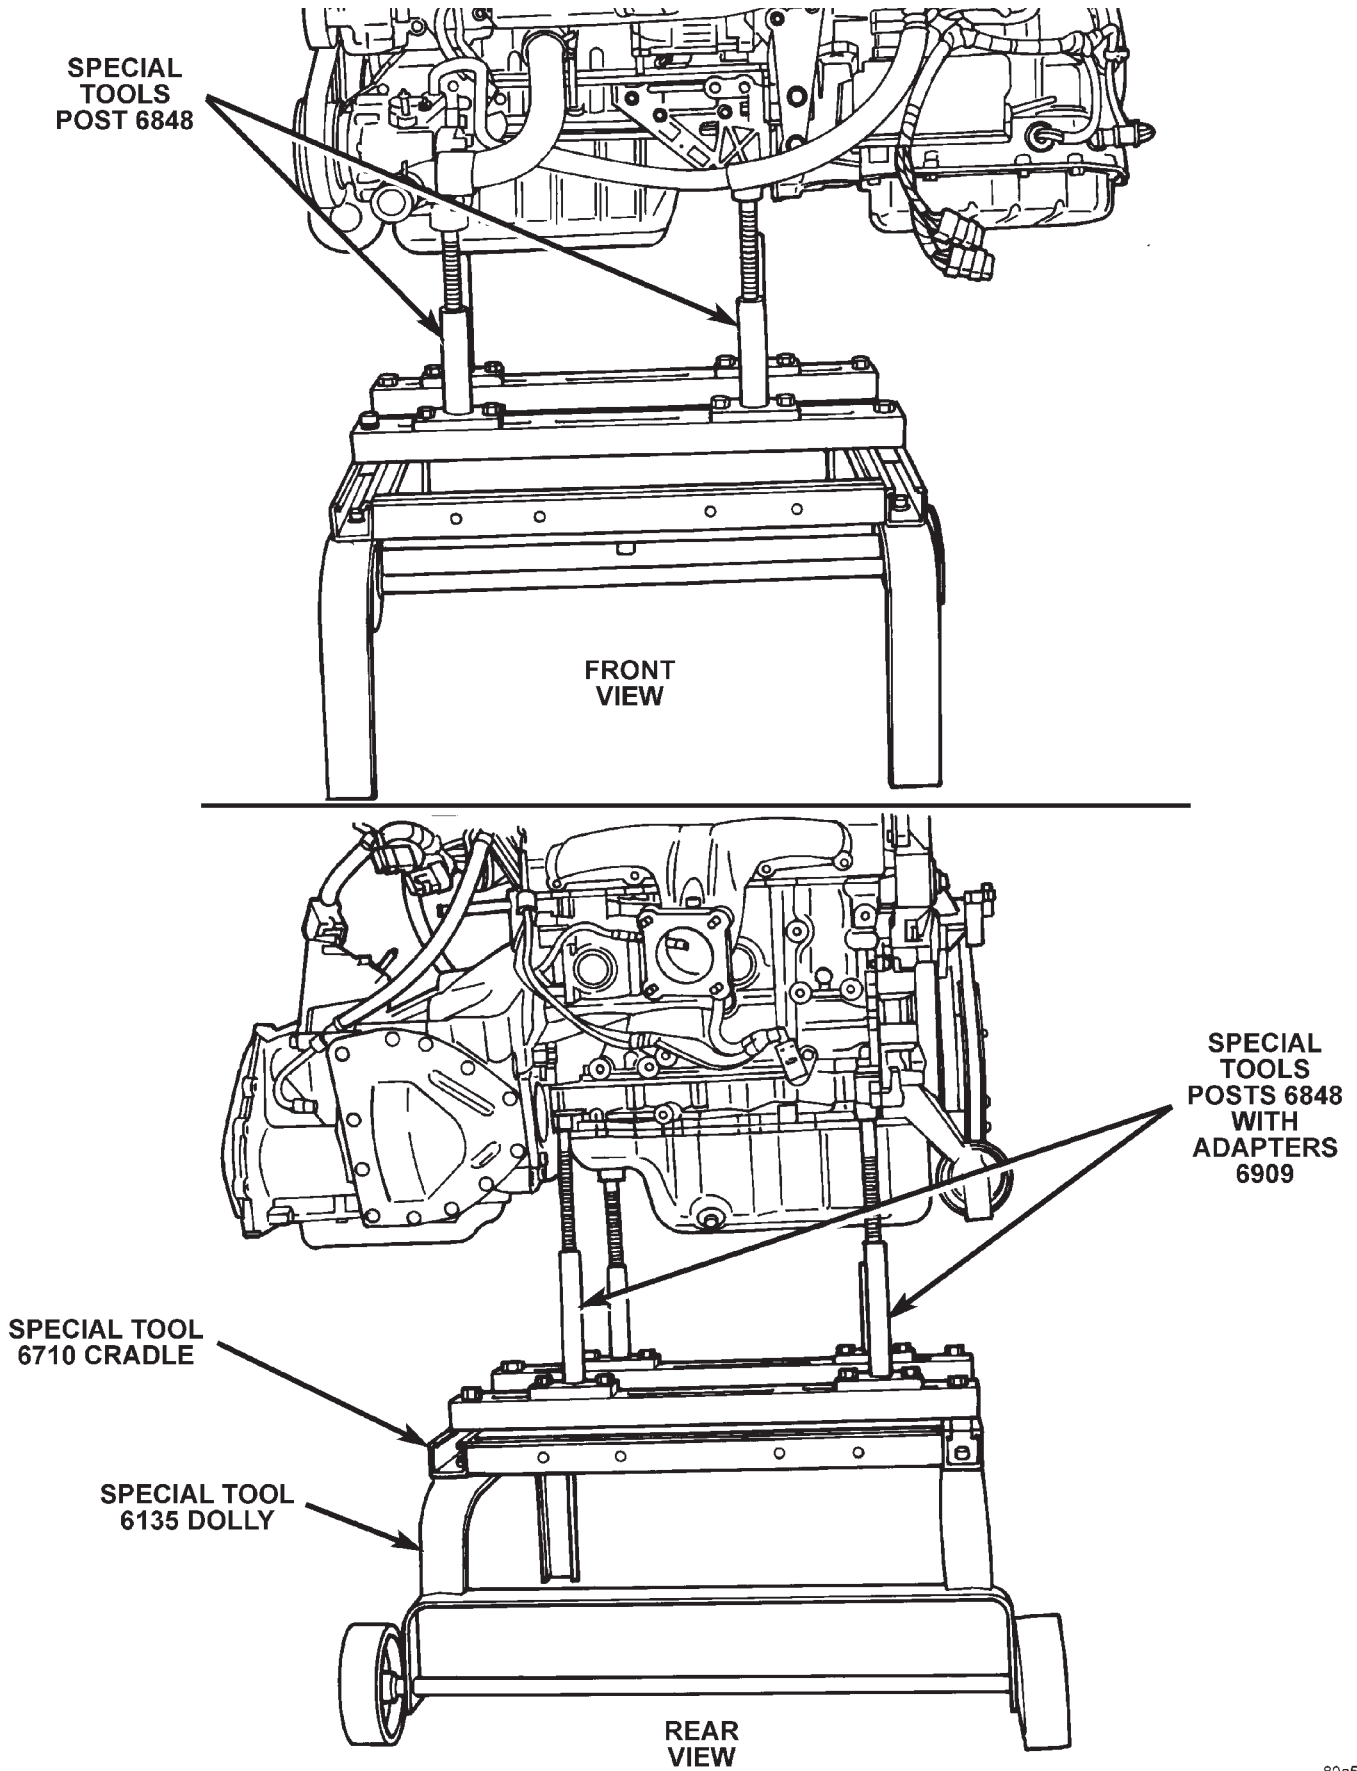

Fig. 23 Positioning Engine Cradle Support Post Mounts
- (16) Remove engine support module.
- (17) Remove front and rear mount brackets from the engine and transmission.
- (18) Remove rear engine/transmission bending brace. Remove flex plate cover. Remove converter bolts and mark converter for reassembly.
- (19) Lower vehicle.
- (20) Remove power steering pump, reservoir and hoses. Position components for engine removal.
- (21) Remove A/C suction line at compressor. Cap suction port and line.
- (22) Remove ground straps to body.
- (23) Raise vehicle enough to allow engine dolly 6135 and cradle 6710 with posts 6848 to be installed under vehicle (Fig. 23).
- (24) Loosen cradle engine mounts to allow movement for positioning onto engine locating holes on the engine bedplate, compressor and support bracket. Install adapters 6909 to the two post at rear of engine. Lower vehicle and position cradle mounts until the engine is resting on mounts. Tighten mounts to cradle frame. This will keep mounts from moving when removing or installing engine and transmission.
- (25) Lower vehicle so weight of the engine and transmission ONLY is on the cradle.
- (26) Remove engine and transmission mount bolts.
- (27) Raise vehicle slowly. It may be necessary to move the engine/transmission assembly on the cradle to allow for removal around body flanges.